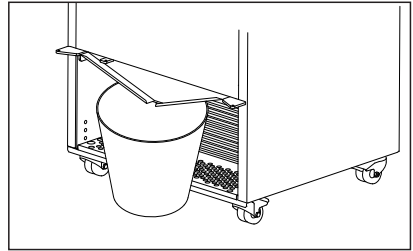

fig. 10
3. Position a bucket or a suitable container under the defrost water drain. (see fig 10)